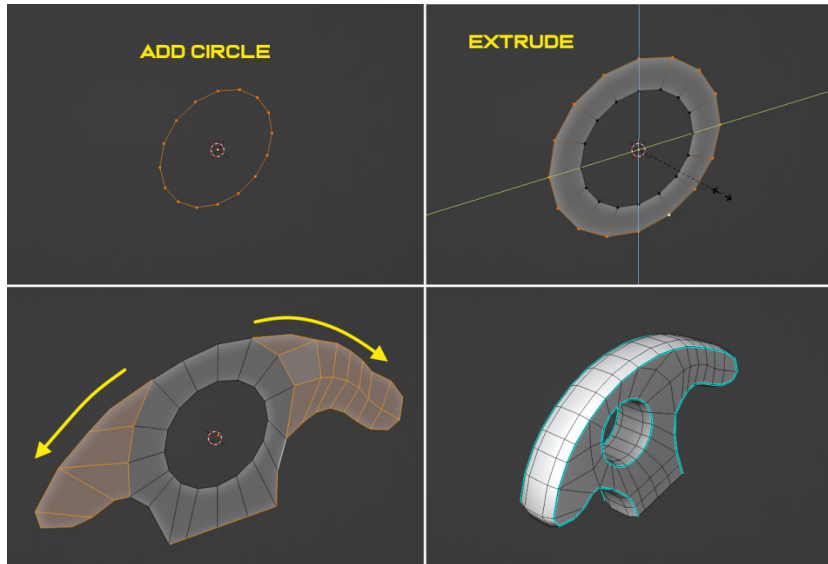

Figure 8.34 – The tow hook
2. Reshape the circle and extrude parts of it to form a shape, as shown in *Figure 8.34*.